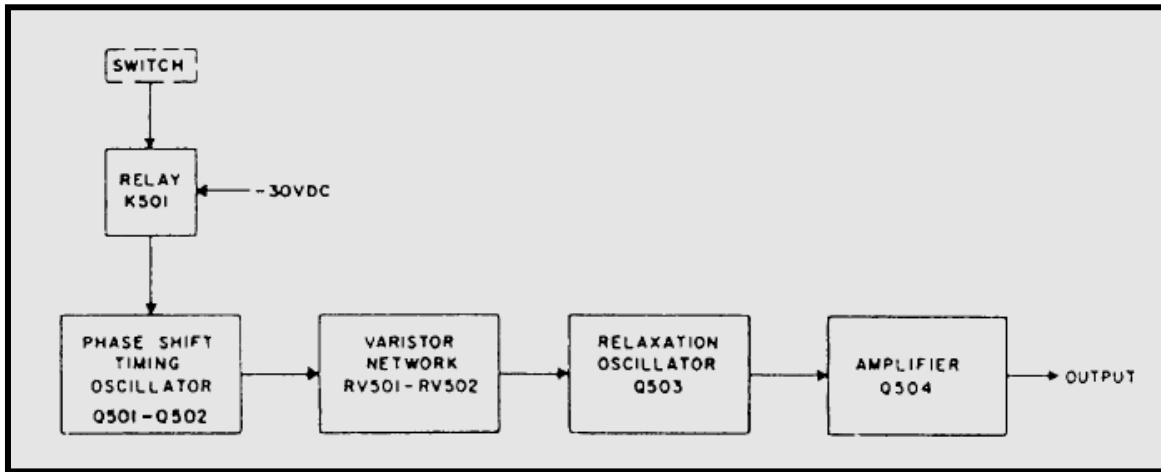

Figure 7-16.— Block diagram of the flight crash alarm module.
**FLIGHT CRASH ALARM.**— The flight crash alarm consists of a phase shift oscillator that controls the frequency of a relaxation oscillator through a varistor network and an amplifier stage producing a siren tone. Figure 7-16 is a block diagram of a flight crash alarm module. Operation of the flight crash alarm contact maker supplies -30 volts dc through relay K501 to all stages of the circuit.